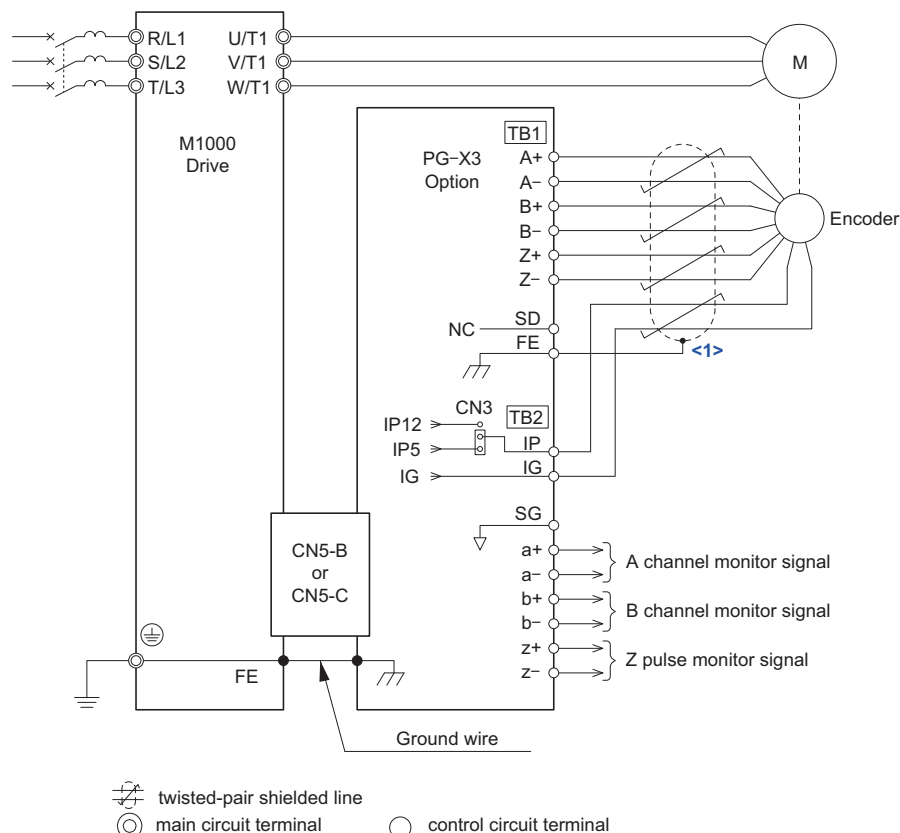

Figure 41 PG-X3 Option and PG Connection Diagram
5. Wire the motor PG encoder to the terminal block on the option. Refer to **Figure 41** for wiring instructions. Refer to **Table 85 on page 191** for a detailed description of the option board terminal functions.